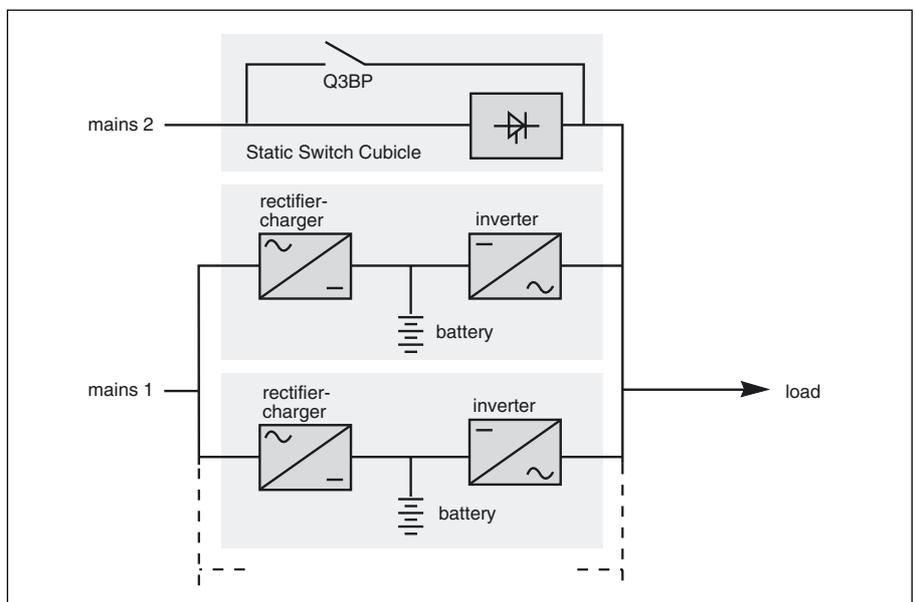

Fig. 7
- ▶ Parallel UPSs with SSC: (figure 7)